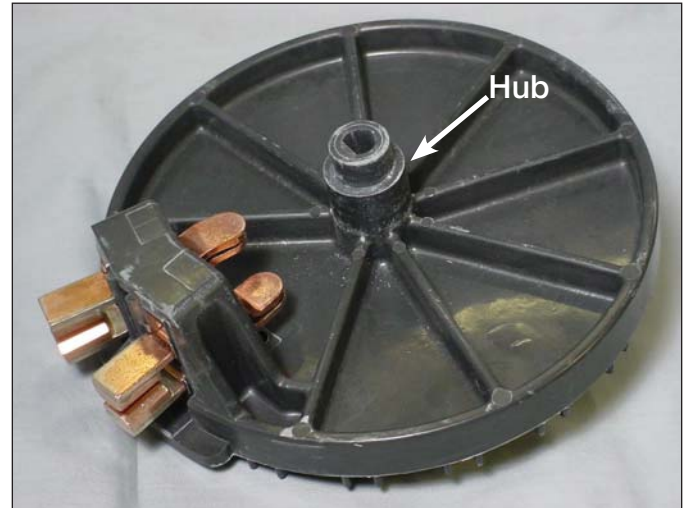
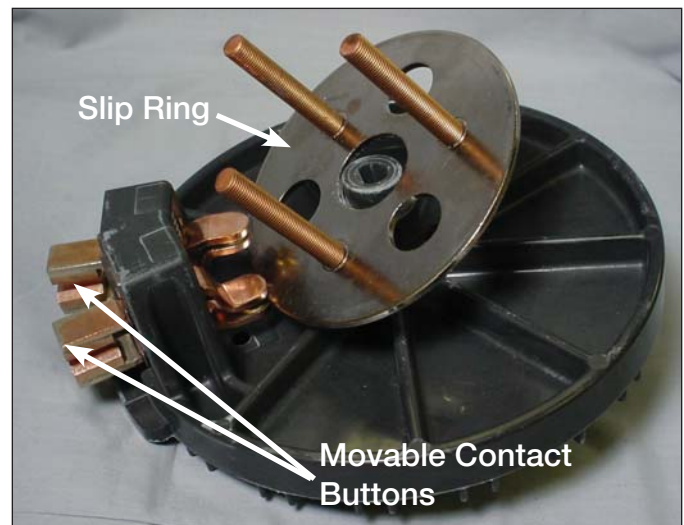

Figure 22.
Figure 23.
- Place one of the Slip Ring Studs (see Figure 22) assembly over the hub of the movable contact and Geneva gear assembly (see Figure 23). When putting the slip ring on the Geneva gear, angle the ring so that the ring can be inserted between the movable contact buttons on the lower left hand movable contact. See Figure 23.